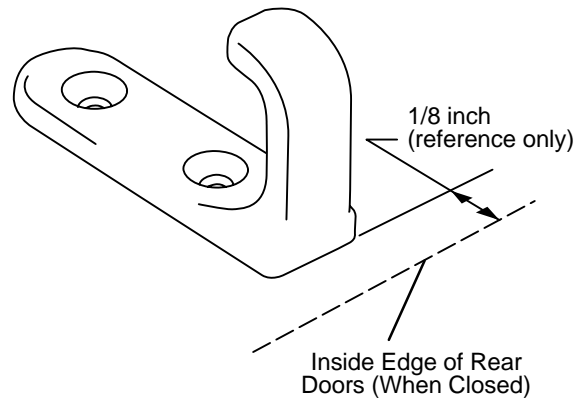

Figure 5 – Illustration of J Safety Hook
4. Mark the position of the safety hook on the patient compartment floor. The safety hook should be installed as close as possible to the rear of the vehicle while allowing the vehicle doors to close (Figure 5). Be sure the bumper and bumper step don't interfere with the folding and unfolding of the cot's undercarriage.